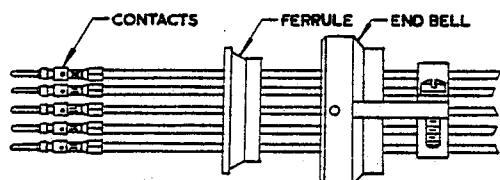
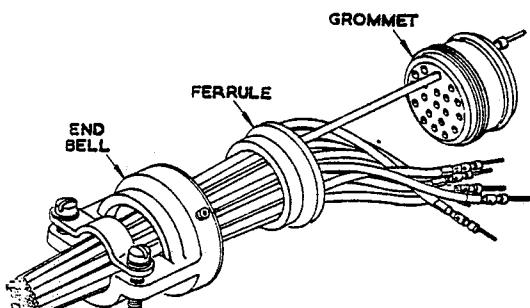

Fig. 14. Assembly of endbell and ferrule
Fig. 15. Assembly of grommet
13. In preparation for extracting contacts (pin or socket), the endbell, ferrule and grommet should be removed from their assembled positions and slipped back along the cables, as shown in fig.14.
32. After the contacts have been crimped to wires, install the endbell and then the ferrule over the wire bundle as shown in fig.14.
33. With endbell and ferrule on wire bundle, the grommet is then attached. This is done by slipping the wired contacts—one at a time—through the rear of the grommet (fig.14). The rear can be identified by its concave surface, and by the gripping rings. Only the contact cavities on the vertical centre line will be identified on the rear of the grommet (fig.15).